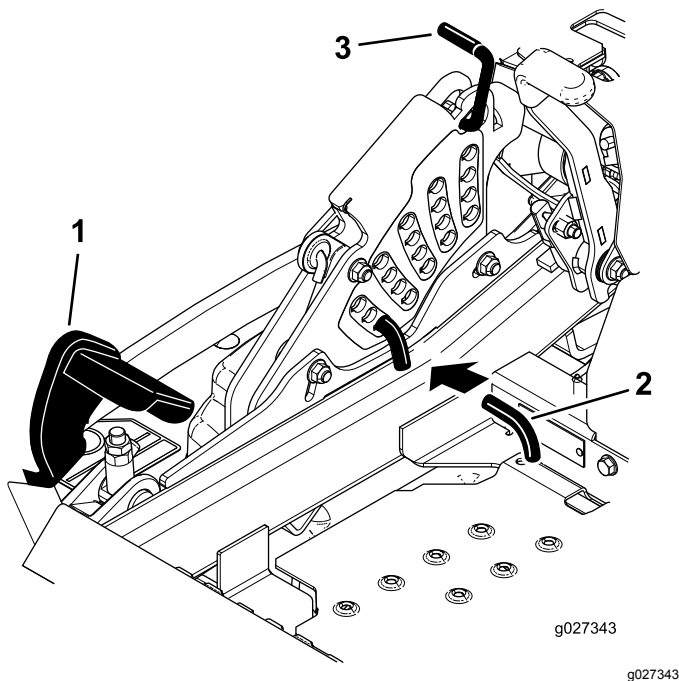

Figure 25
2. Push on the deck-lift pedal with your foot, and raise the mower deck to the transport position (also the 140 mm (5-1/2 inches) cutting height position) as shown in Figure 25.
3. To adjust, rotate the pin 90 degrees and remove the pin from the height-of-cut bracket (Figure 25).
4. Select a hole in the height-of-cut bracket corresponding to the height-of-cut desired, and insert the pin (Figure 25).